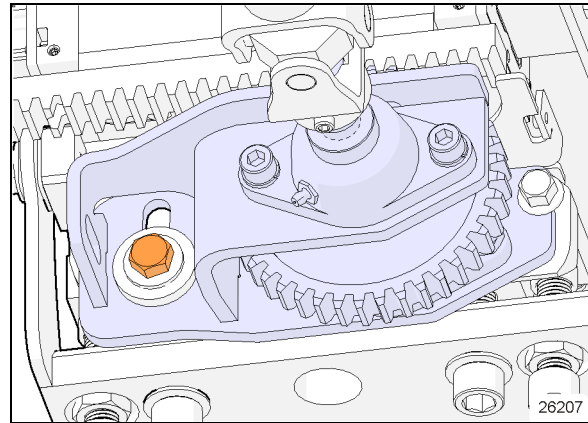

FIGURE 35: REMOVE TENSION. SLIGHTLY UNSCREW.
1. Slightly unscrew the slot screw to remove tension as shown in Figure 35
6. Pull shaft (1) out
7. Remove old pinion gear (3). If key is damaged, replace with new.
8. On shaft (1), install thrust bushing (6), key (5), new pinion (3) and thrust washers (4).
9. Push shaft through bottom locking collar (2) and bottom pillow bearing until the shaft end contacts the bottom mounting plate.
10. Maintain shaft in contact with plate and lock bottom collar (2).
11. Using a drift and hammer, tension the eccentric locking collar (2) by means of one or two strong blows. There is a cavity on the collar made for that purpose.
15. On the pinion assembly, tighten screw (Figure 35) to: **198 lb-ft (268 Nm)**